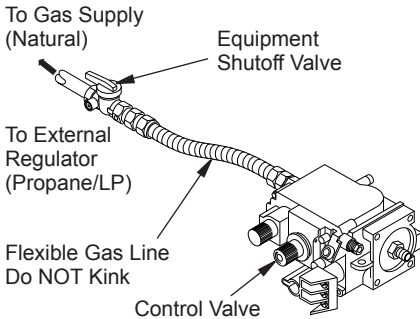

Figure 33 - Connecting Flexible Gas Line to Millivolt Valve
3. Attach flexible gas line from gas supply to control valve (see Figure 33, page 24).